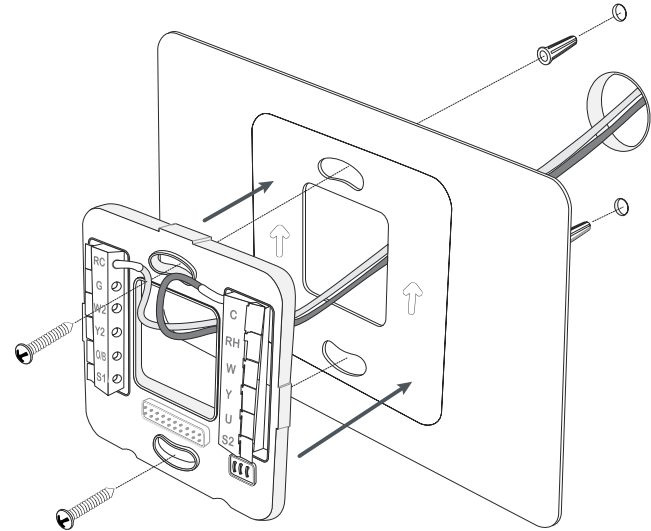

Figure 2. Wiring connection and back plate attachment (optional trim plate shown).
If you are replacing an existing thermostat you have the option of using the provided Wiser Air trim plate. If the hole left by the removal of the existing unit is larger than the back plate of the Wiser Air thermostat, use the optional trim plate. Run the wires and anchor the mounting screws through it while attaching the back plate to the wall (Fig. 2). Make sure to attach the trim plate with the central hole oriented upwards.
10. Attach the Wiser Air back plate to the wall using the provided screws in the mounting holes in the top and bottom (Fig. 2).